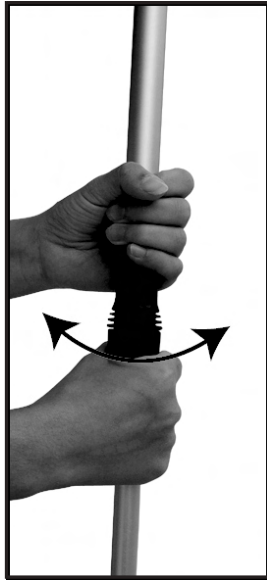

Fig.14
- 1) Loosen the adjusting coupling (15) (Fig.14)
- 3) Re-tighten the adjusting coupling (15). (Fig.14)